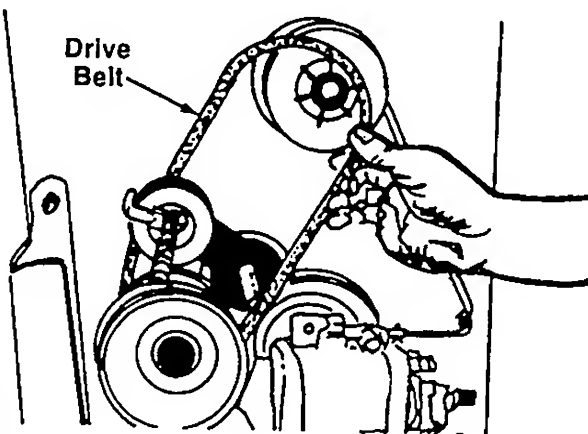

FIGURE 22.
9. Remove and replace the "V"-belt. See figure 22.